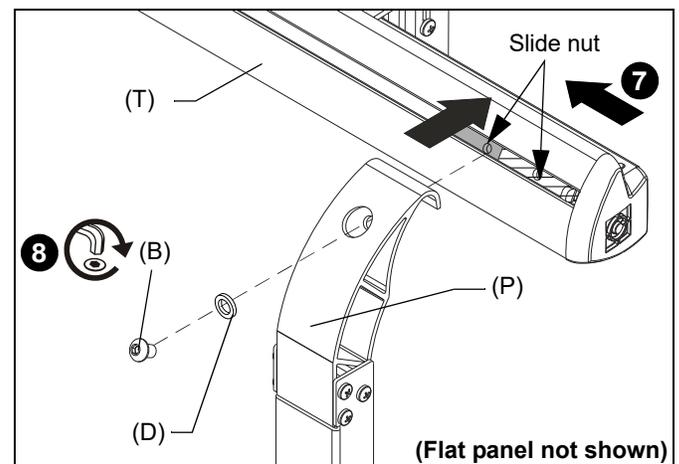

Figure 14
7. Move the slide nut behind the upright (P). (See Figure 14)
8. Fasten upright in place using one 1/4-20 x 3/8" button head cap screw (B) and one 1/16" nylon spacer (D) [from OB1U Hardware kit] into slide nut. (See Figure 14)